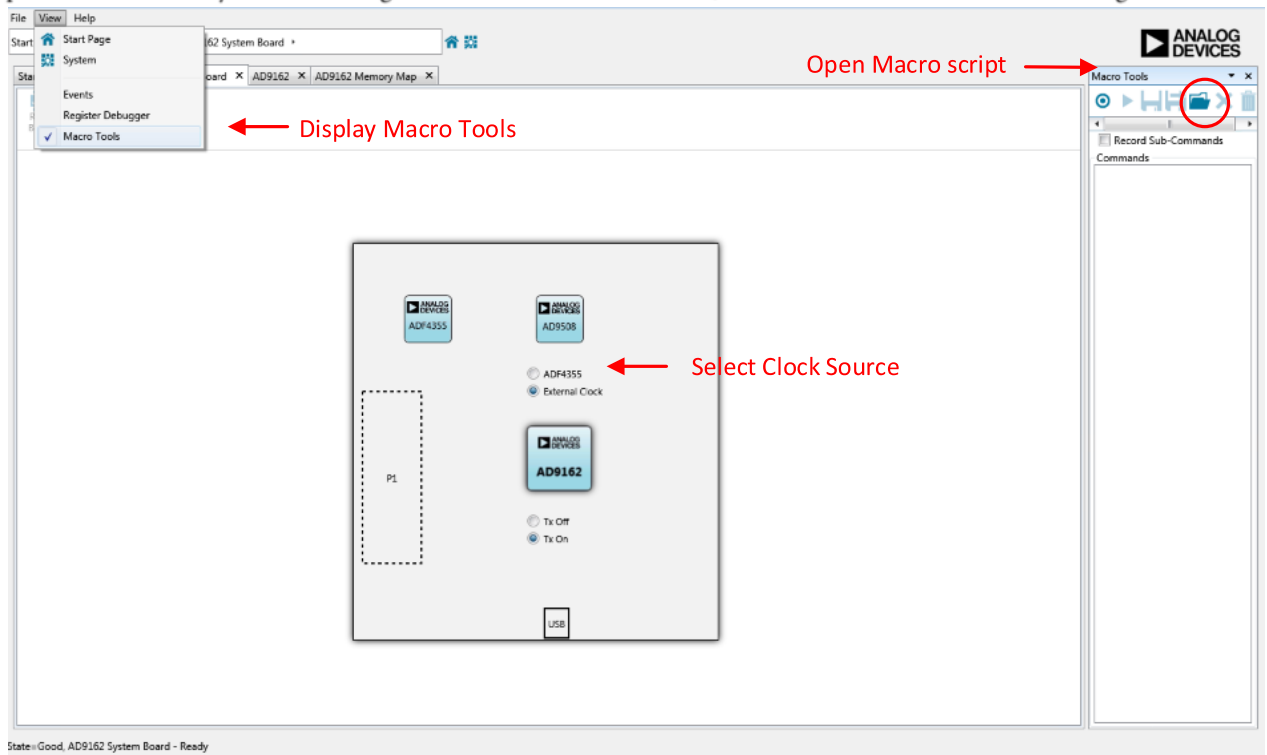

Figure 6. AD9162 Eval Board View and Clock Source Selection in ACE
2. Open the board view by double clicking on the AD9162 Eval Board area, then select clock source as shown in Figure 6.
- Go to the macro section on the right and click on the “Open Macro” icon (folder opening) as shown in Figure 6. In the Open Macro dialog, navigate to the file that is saved in step 3, and click “Open”. A series of register writes will appear below the control.